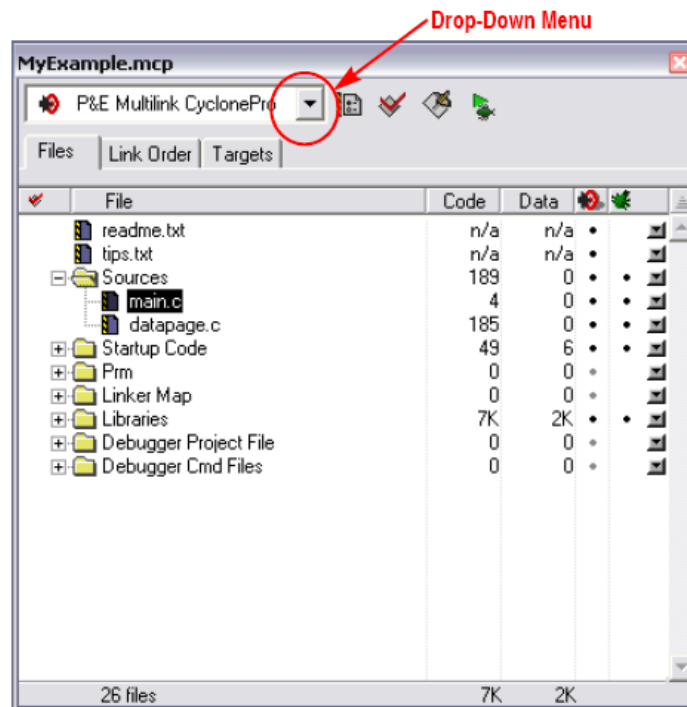

Figure 7. CodeWarrior Project Window
- t) Click Finish — the wizard creates a new project based on information you specified. A project window will appear, docked at left side of main window (see Figure 7).
- a) Click the drop-down menu of the project window (see Figure 7).
- Click the + sign next to the sources folder to reveal files (see Figure 7).